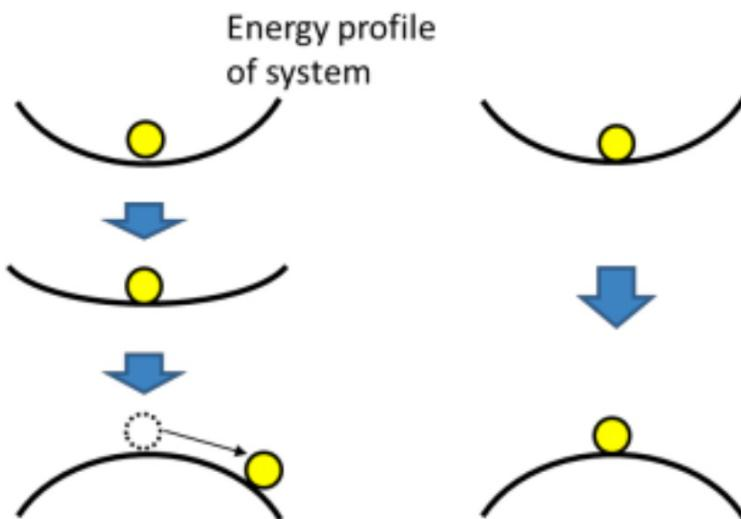

Figure 2 – Schematics of structural destabilization and unstable equilibrium.
*Note: In the absence of thermal fluctuation, the system may reach an unstable equilibrium without buckling. (See Figure 2.)*